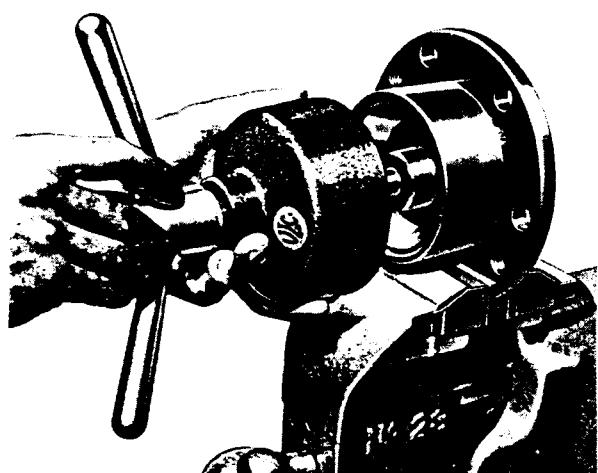

FIG. 19
After removal of pinion (37) from sleeve (40), cups (42) can be withdrawn and replaced as shown respectively in Figs. 19 and 20, using Service Tools FT.23 and FT24.